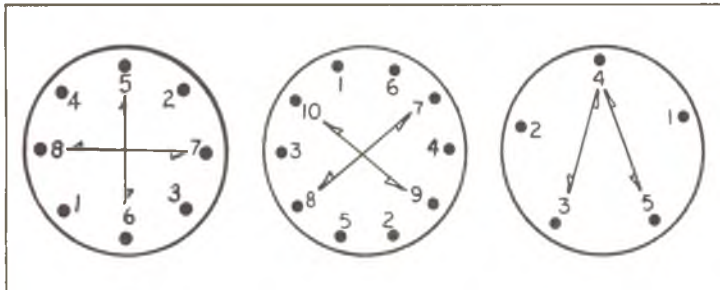

Fig. 3—Wheel Nut Tightening Sequence
3. Torque nuts to specified torque in sequence shown in Figure 3.